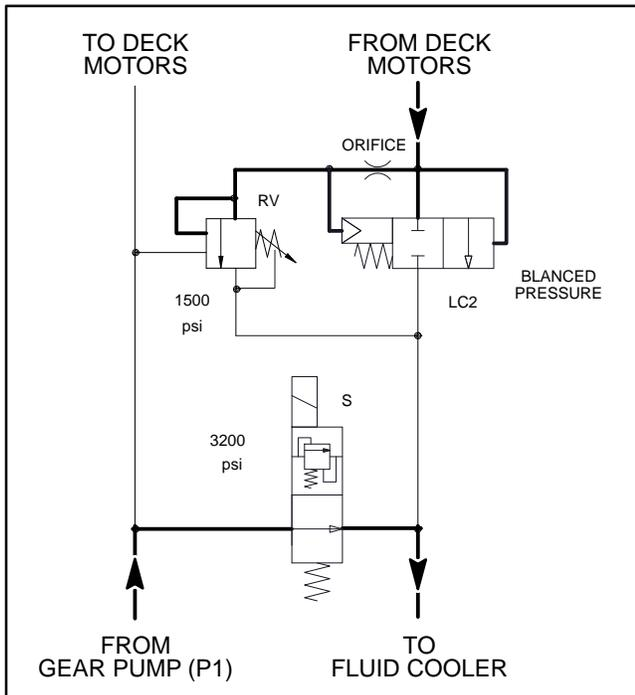

Figure 21
When the solenoid valve (S) is de-energized, the flow to the cutting deck motors and the relief valve (RV) is removed allowing relief valve (RV) to shift. The shifted relief valve removes flow from the orifice at the logic cartridge (LC2), causing a balanced pressure condition which shifts the logic cartridge, blocking the return oil path from the deck motors (Fig. 21).